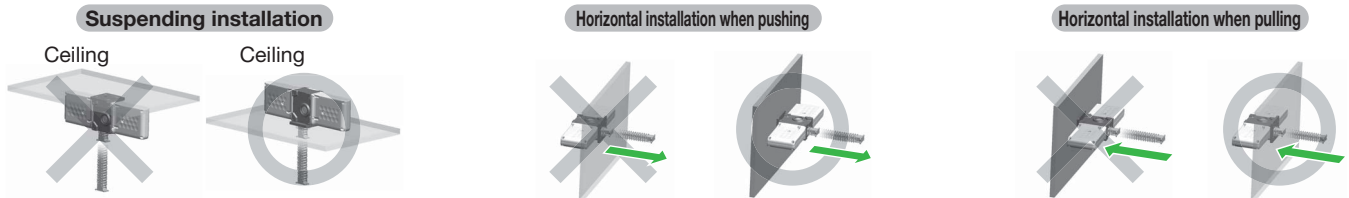

Figure 1 — Acceptable installation directions (Example)
2. The ZCA can be installed in the vertical lifting or suspending directions or horizontally. However, when installed horizontally or in a suspending position, do not allow the weight of the unit and the weight of conveyed items to be placed on the mounting bolts. Operating the unit in such a condition may result in damage to the unit. Install the unit in a manner that prevents the mounting bolts from receiving any of the load. (Figure 1)